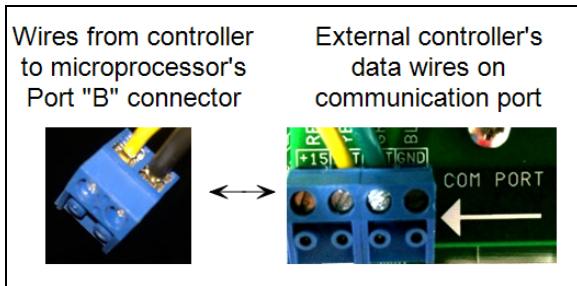
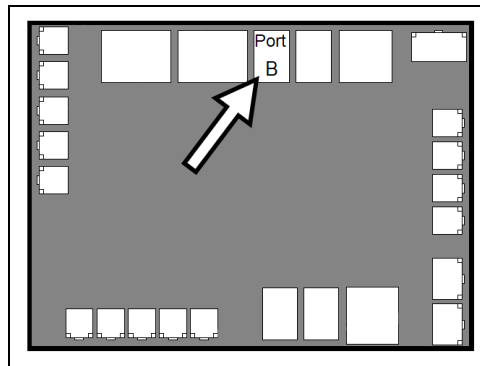
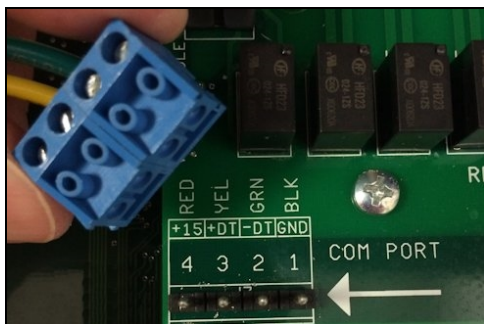

Figure 1
Figure 2
Figure 3
4. Connect control wires to the heat pump's "Port B" of the microprocessor as indicated. See Figure 1 and Figure 2. It is OK to double up wires at the external controller connection if necessary. If, for example the external controller is using the data port for an indoor controller, add wires to existing configuration. *Connectors can be removed from terminals for ease in connecting wires. See Figure 3*